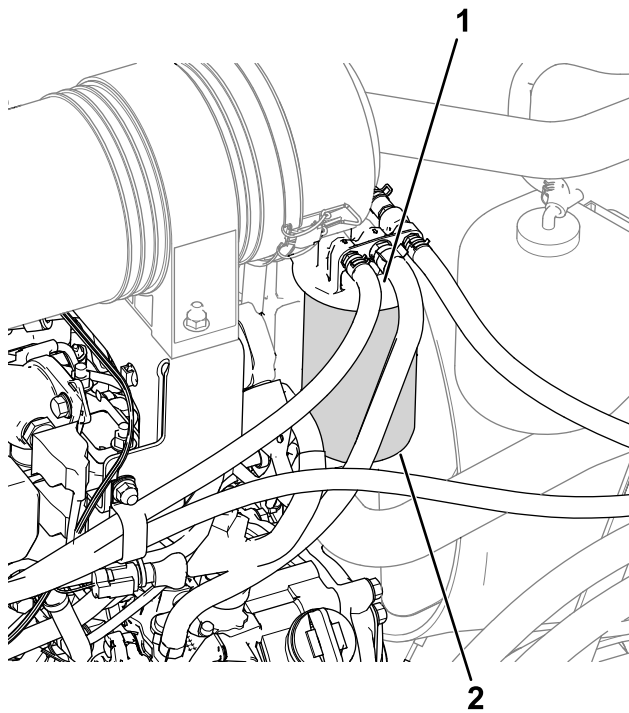

Figure 55
1. Clean the area around the fuel-filter head (Figure 55).
2. Remove the filter and clean the filter head mounting surface (Figure 55).